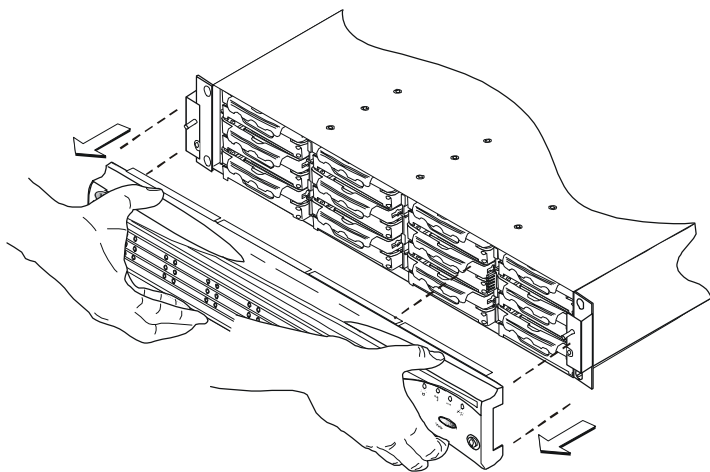

Figure 2-2 Removing the Front Bezel
- 3 Using both hands, pull the front bezel from the storage subsystem. See Figure 2-2.